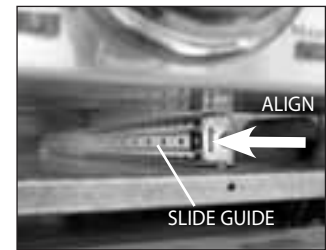

Fig. 21
- Align the side of the drip tray with the slide guides (Fig. 21).